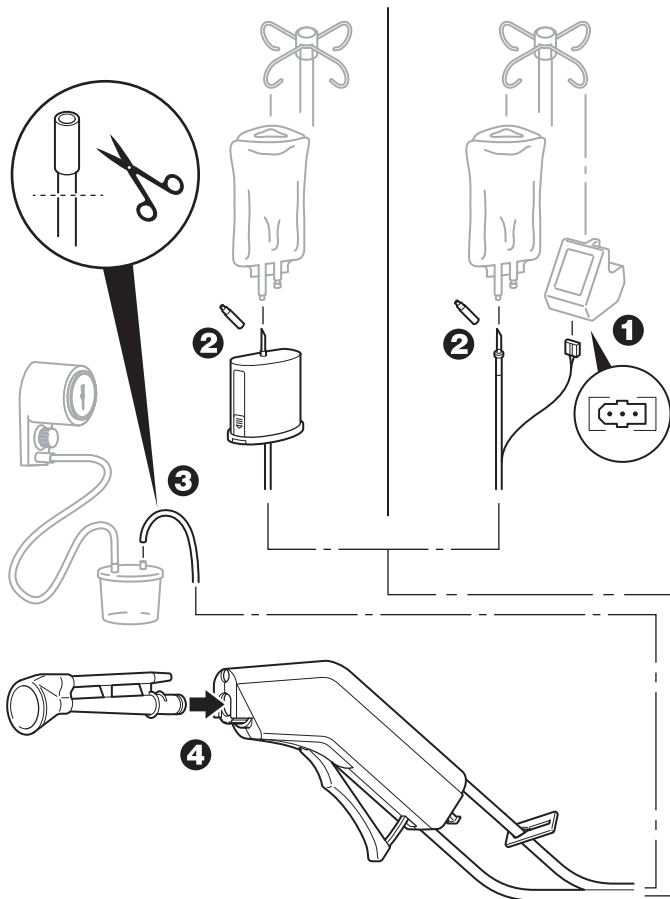

Figure 1 – To Assemble the Handpiece
- If using a handpiece with a rechargeable power pack, install the handpiece power cord plug into the receptacle of the InterPulse Rechargeable Power Pack REF 0211-022-000 (figure 1). See the instructions for use supplied with the InterPulse Power Pack Charger.